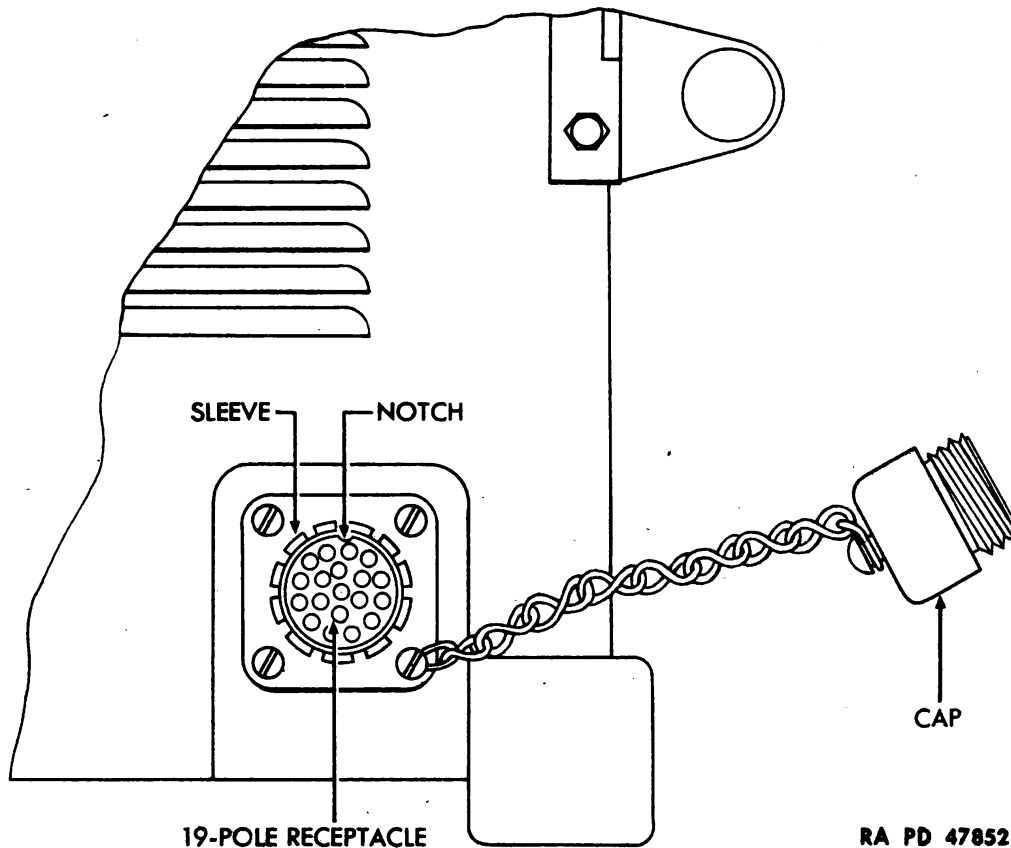

Figure 38 — 19-pole Outlet Receptacle — Generating Unit M6
a. **General.** All Generating Units M5 have 3-pole outlet power receptacles. All Generating Units M6 have 19-pole receptacles. M6 Units with serial numbers from 267 to 366, and 377 to 726 inclusive, also have 3-pole receptacles mounted on the rear of the unit. The 3-pole receptacles are used for 3-phase current, while the 19-pole receptacles (fig. 38) are used for single-phase current.